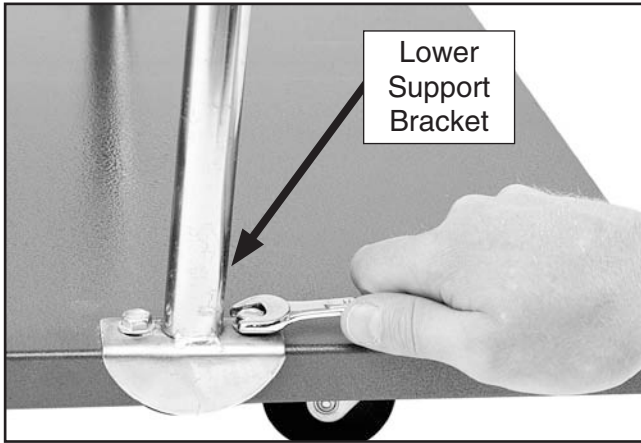

Figure 7. Mounting support bracket to base.
5. Attach the lower collector support brackets to the top edge of the base plate using (4) $\frac{5}{16}$ "-18 x $\frac{1}{2}$ " flange bolts, as shown in **Figure 7**.